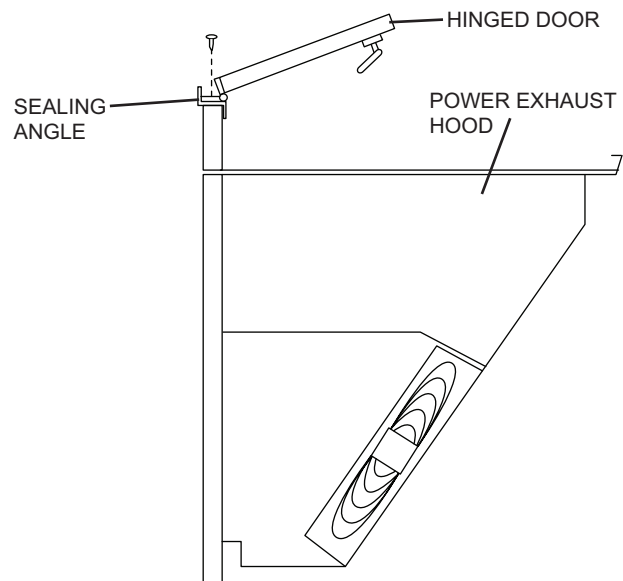

Fig. 16 — Install the Hinged Door
7. Place the door and hinges back on the unit. Screw through the door hinges and sealing angle into the flanged top of the hood using the 4 screws set aside when the hinged door was removed. (See Fig. 16.)